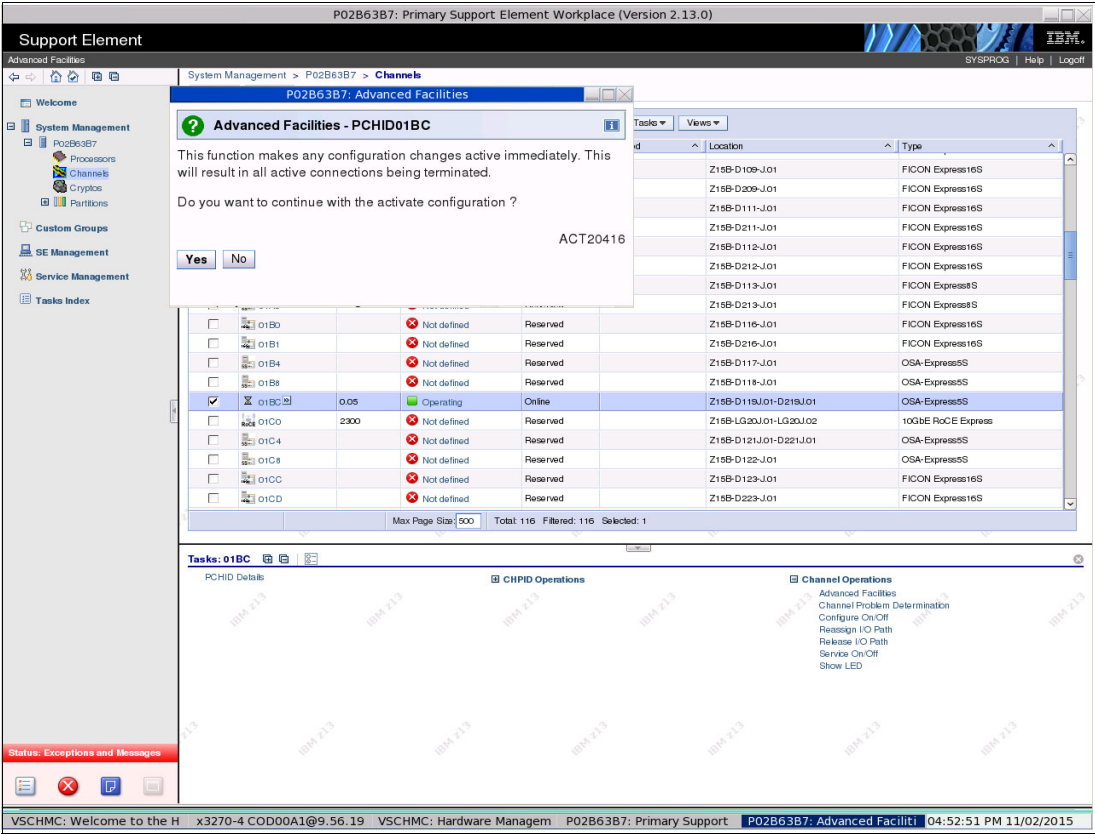

Figure 7-18 Activation Warning panel
2. The Activate Configuration Warning panel is displayed, as shown in Figure 7-18. We click **Yes**.